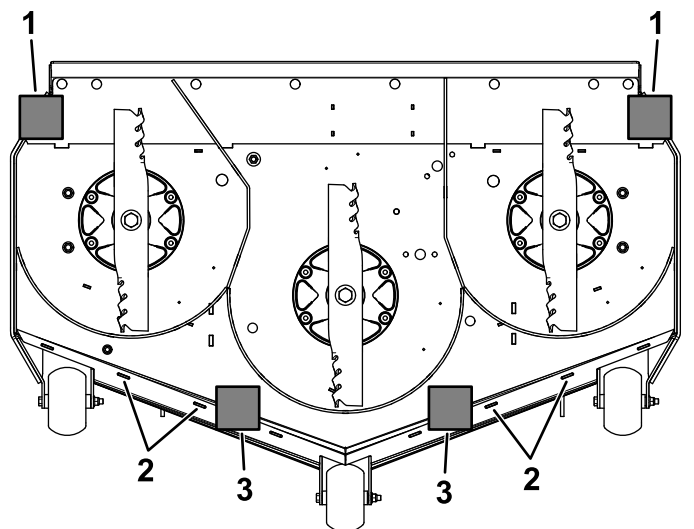

Figure 79
9. Place 2 blocks (see Block Height and Rake Table) under the rear edge of the cutting deck skirt; 1 on each side of the cutting deck (Figure 79).
12. Carefully rotate the blades side to side (Figure 79).